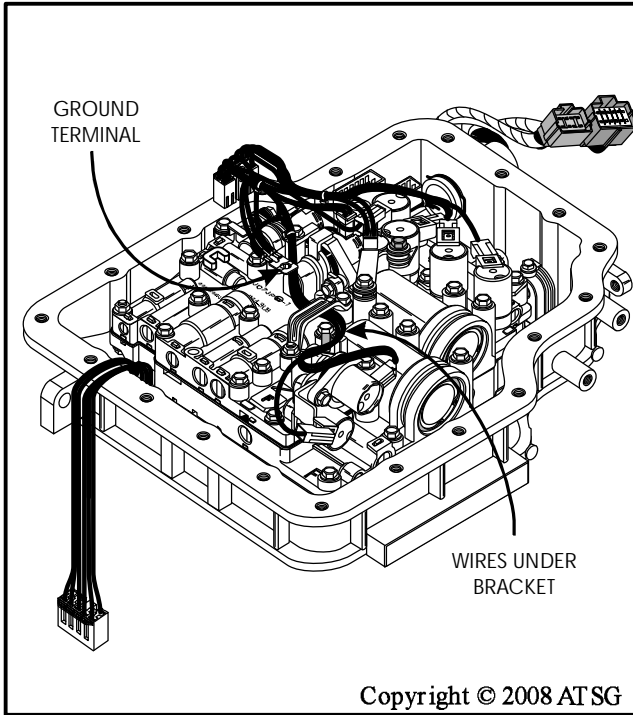

Figure 236
49. Install the internal solenoid harness assembly, as shown in Figure 235, ensuring that you get the wires indicated in Figure 236 under valve body bracket.